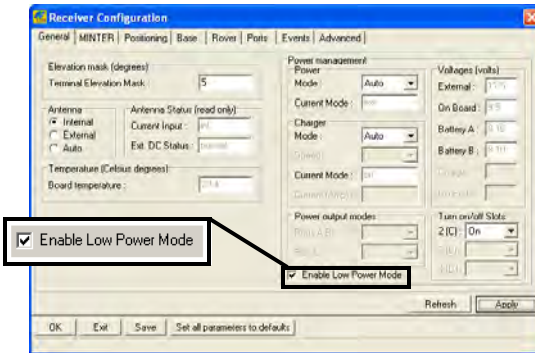

Figure 2-11. Enable and Apply Power Settings
7. Select the **Enable Low Power Mode** check box to put the receiver's processor into low power consumption mode (Figure 2-11).